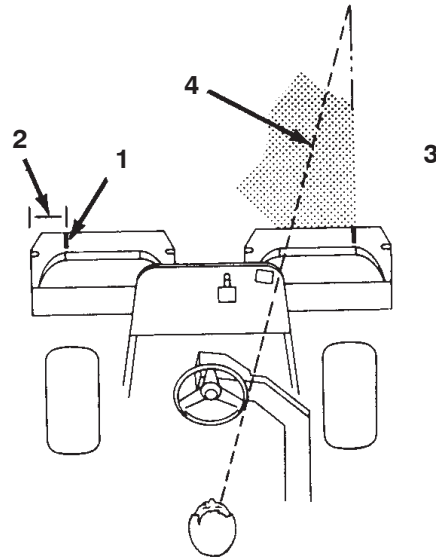

Figure 39
1. Measure in approximately 5 in. (12.7 cm) from the outer edge of each basket (Fig. 39).
2. Either place a strip of white tape or paint a line onto each basket paralleling the outer edge of each basket (Fig. 39).